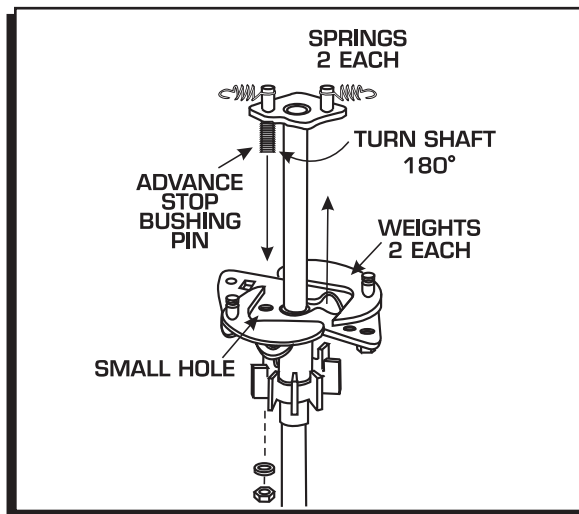

Figure 8 Locking Out the Centrifugal Advance.
5. Rotate the shaft 180° and insert the advance stop bushing pin into the small hole on the advance plate (Figure 8).